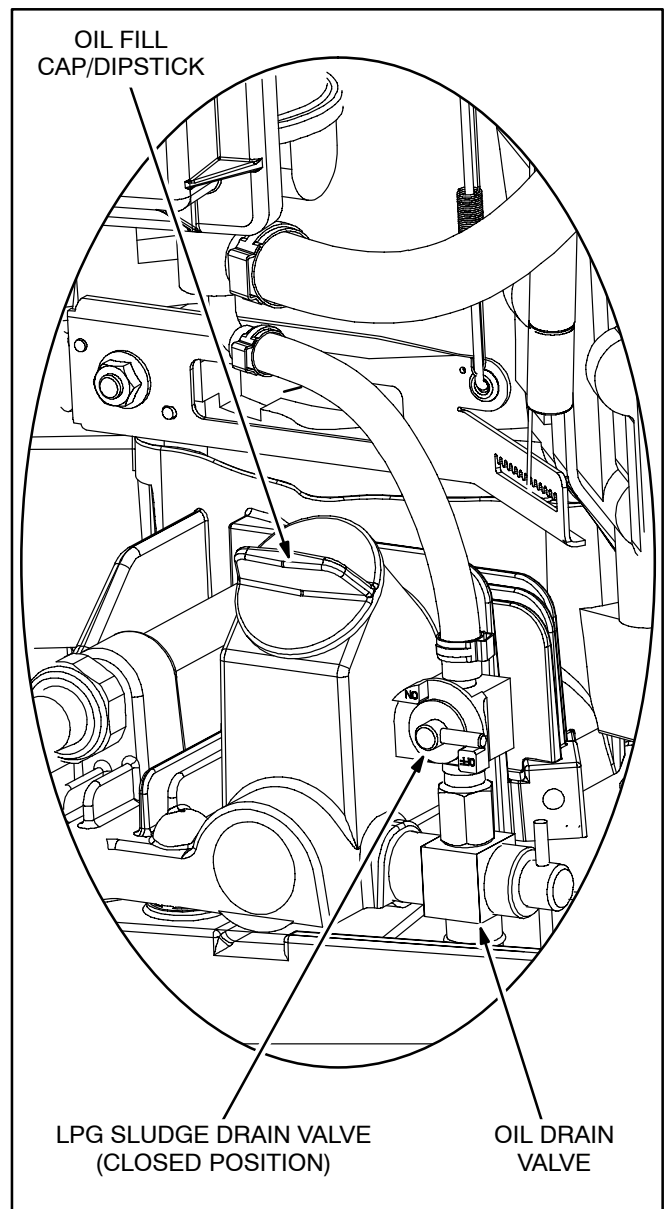

FIGURE 3-1. OIL FILL/DIPSTICK AND DRAIN VALVE
1. Unscrew the oil fill cap and wipe oil off the dipstick (Figure 3-1). Screw the cap back on, remove it and check the oil level on the dip stick.
2. Remove the oil fill cap, open the oil drain valve (Figure 3-1), let all oil drain from the engine and then close the drain valve.
3. **High Pressure LPG Gensets:** Drain the LPG system of accumulated sludge by opening the sludge drain valve (Figure 3-1). Oil-like sludge can migrate from the LPG supply system during operation, and if allowed to accumulate, can cause hard starting and rough running. The